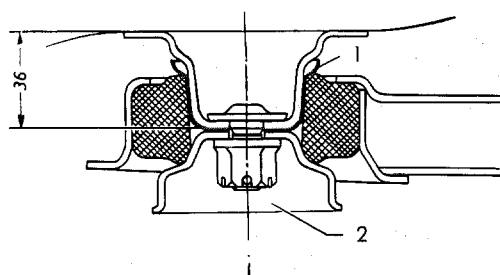

Fig. 35-1/4
In the case of step bearings with the dimension "a" = 36 mm the metal cap (1) Part No. 180 358 0059 should be installed on the lower section of the cup in order to prevent the torque arms from striking against the chassis base panel when the springs are fully depressed. When the metal cap is installed, the torque arm is moved to a slightly lower position, so that it cannot strike against the chassis base panel. Only 30 mm cups (2) Part No. 180 352 0067 can be used together with the metal cap (fig. 35-1/4).